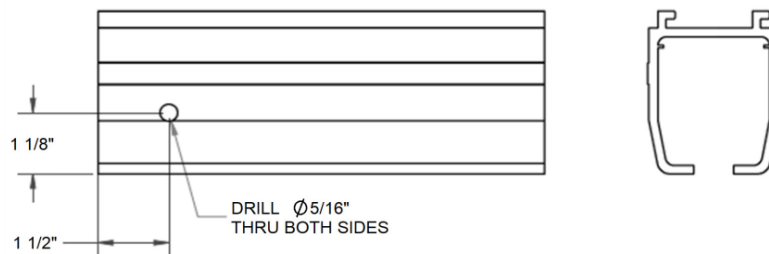

Figure 7: **Clevis Pin Hole Location**
2. Use a 5/16" bit to drill a hole at the marked spots for the clevis pin (see Figure 7).